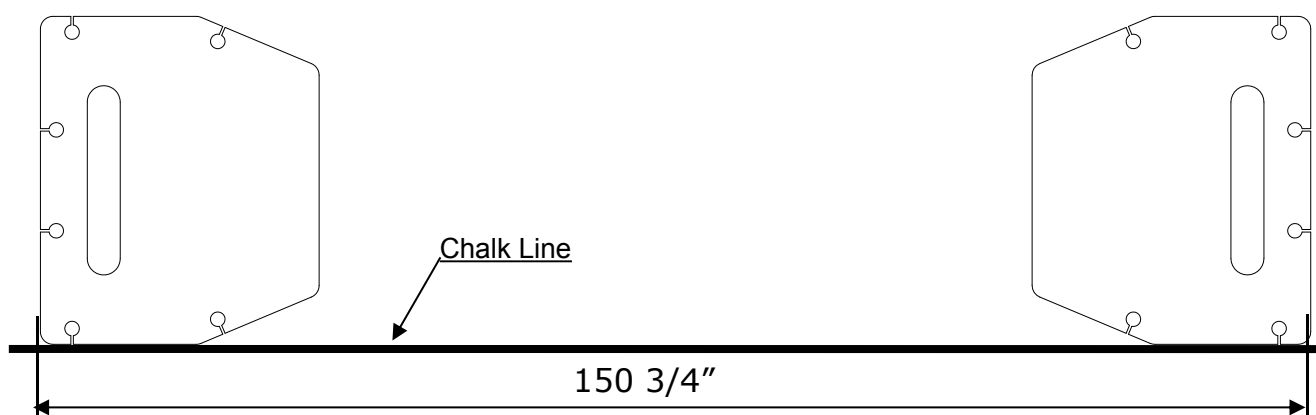

Fig. 9
B. Use a carpenter's chalk line to establish installation layout of base-plate (See Fig. 9).